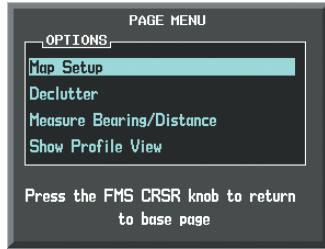

Figure 6-170 Navigation Map Page Menu
- 3) With Map Setup highlighted, press the **ENT** Key (Figure 6-170).